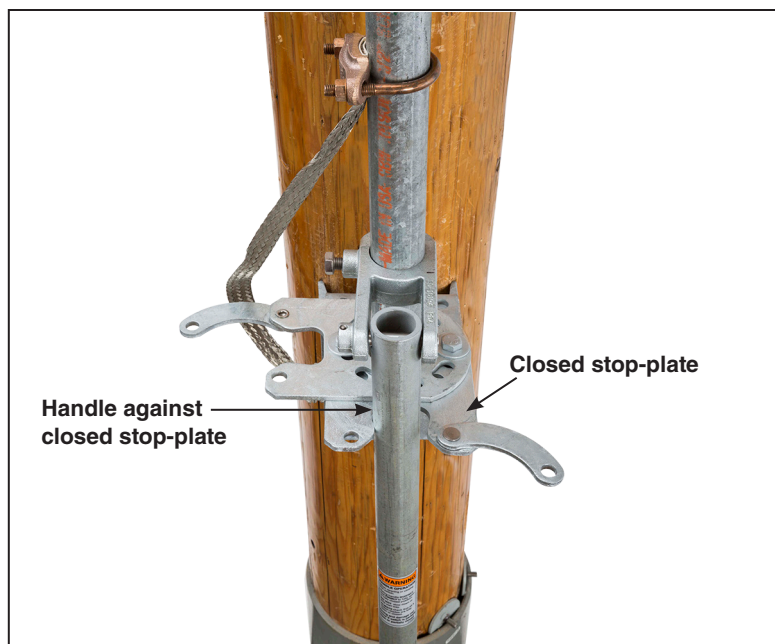

Figure 23. Adjust the closed-position stop plate.
- (b) The stop plate holes are slotted to allow room for adjustment. Position the operating handle in the stop plate and turn the operating handle as far as it will go in the **Closed** position. (Counter clockwise is standard on switches using the rotating operating mechanism.) The handle should be tight against the edge of the stop plate, as shown in Figure 23 on page 22. Mark the position of the closed stop-plate. See Figure 24 (left).